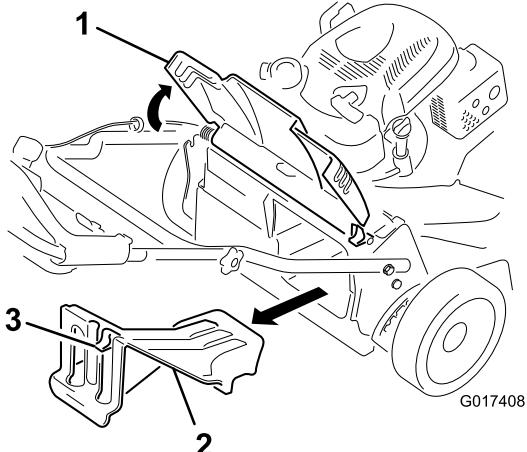

Figure 26
- Raise and hold up the rear door (Figure 26).
- Remove the rear-discharge plug by pulling down on the latch with your thumb and pulling the plug out from the machine (Figure 26).